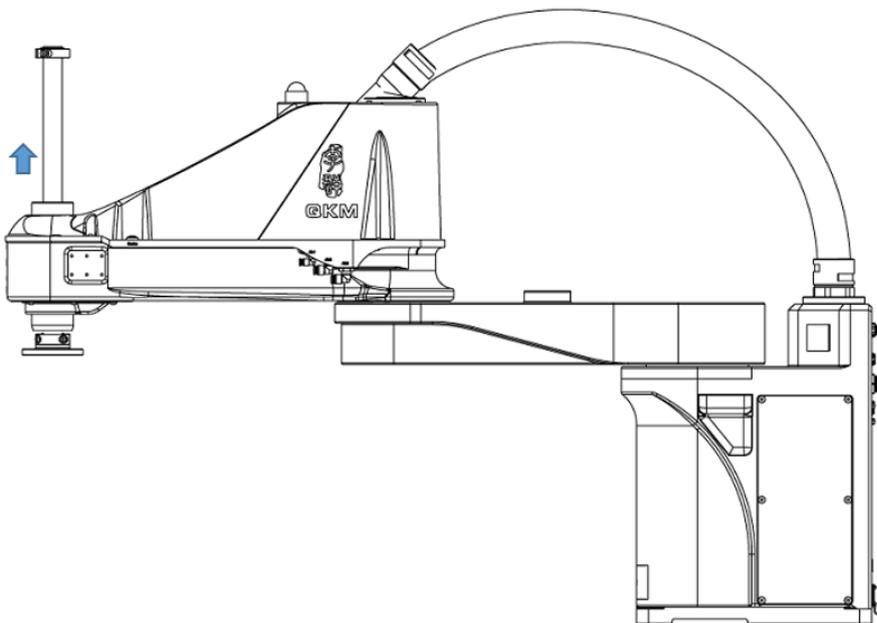

Figure 4-4 Push up the spline screw shaft
Step 3 Hold the end of the screw, then press the brake button and push the spline screw shaft up to the top, as shown in Figure 4-4.